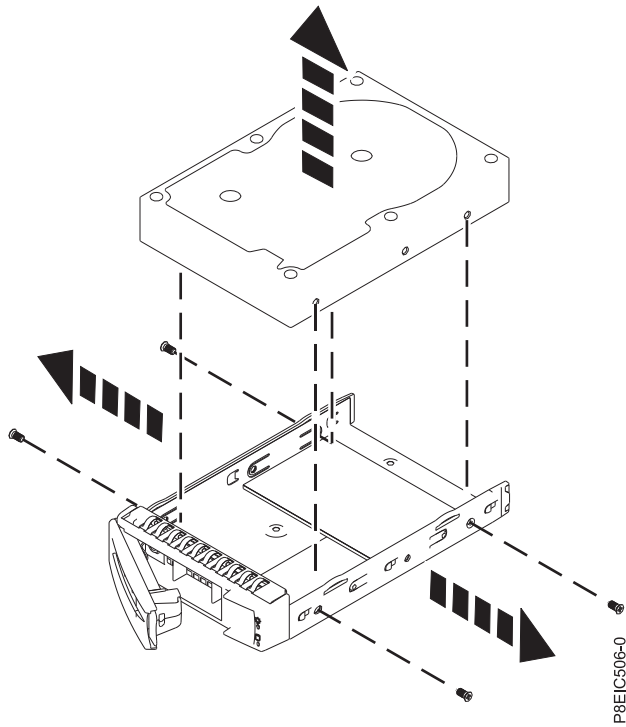

Figure 54. Removing the 3.5 inch drive from the tray
- For a 3.5 inch drive, unfasten the drive from the sides of the tray by removing four screws (2 on each side), as shown in Figure 54 on page 78.